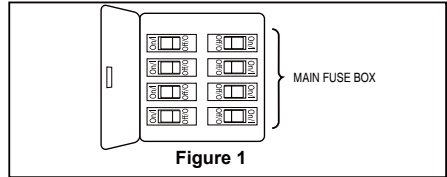
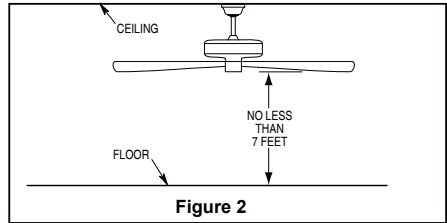
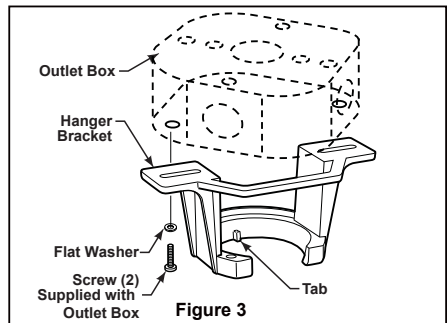

Figure 1
Figure 2
Figure 3
Your new ceiling fan will require a grounded electrical supply line of 120 volts AC, 60 HZ, 15 Amp Circuit. Electrical code requires use of a fan-rated outlet box to support the extra weight and motion associated with a ceiling fan. A fan-rated box will be labeled as such and typically supports up to a 70lbs ceiling fan. Fan-Rated Outlet Boxes vary in ratings and design. Ensure the ratings of your ceiling fan outlet box meet the requirements for the ceiling fan being installed. Figure 1, Figure 2 and Figure 3 depicts different structural configurations that may be used for mounting the outlet box.
Low-profile use (Figure 1)
Deep-profile use (Figure 2)
Brace use (Figure 3)
1. Remove the hanger ball portion from the downrod/hanger ball assembly by loosening the set screw in the hanger ball until the ball falls freely down the downrod. Remove the pin from the downrod, then remove the hanger ball. Retain the pin and hanger ball for reinstallation in Step 6. (Figure 1)
2. Remove the hairpin clip and clevis pin from the bottom of the downrod. Retain the pin and clip for reinstallation in Step 4. (Figure 2)
3. Loosen the two set screws and locking nuts in the downrod support of the motor assembly. Route the red, gray and yellow wires through the downrod. (Figure 3)
To avoid possible fire or shock, be sure electricity is turned off at the main fuse box before hanging. (Figure 1)
The fan must be hung with at least 7' of clearance from floor to blades. (Figure 2)
- ☐ 1. Securely attach the hanger bracket to the outlet box (not included) using the outlet box screws and washers supplied with the outlet box. (Figure 3)
1. To set the code on receiver unit, slide dip switches to the same positions as set on the remote. (Figure 1)
To avoid possible electrical shock, be sure electricity is turned off at the main fuse box before wiring (Figure 2).
2. Slide the receiver into the hanger bracket before wiring as shown in figure 3.
- ☐ **1.** Assemble canopy by rotating key slot in canopy over shoulder screw in hanger bracket and care not to pinch the wires. Tighten shoulder screw. Fully assemble and tighten second shoulder screw that was previously removed. (Figure 1)
- ☐ **2.** Securely attach and tighten the canopy screw cover over the shoulder screws in the hanger bracket utilizing the keyslot twist-lock feature. (Figure 2)
- ☐ 2. Secure the three blades using the 1/4"-20 screws with lock washers and flat washers from the hardware bag. Then through the holes located on the bottom of the motor assembly. (Figure 2)
- ☐ 2. Restore electrical power to the outlet box by turning the electricity on at the main fuse box. (Figure 2)
- ☐ 3. Remove the battery cover from remote control by screwdriver and retain the screw for later. (Figure 3)